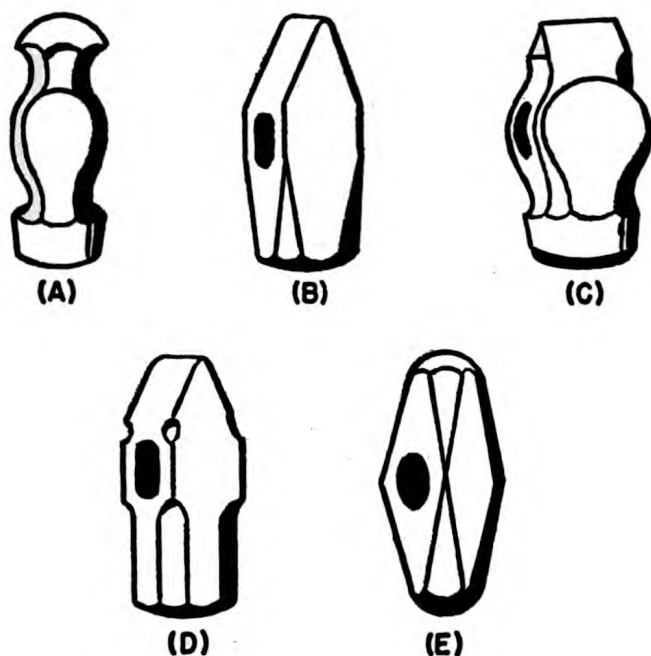

Figure 83.—Hammer type according to weight and peen.
refers to the shape of the top or back surface of the head OPPOSITE the working surface, or face. Thus, a hammer may be BALL-PEEN, as (A) of figure 83, CROSS-PEEN, as (B), or LONG-PEEN (sometimes called STRAIGHT-PEEN) as (C).
In figure 83 (*D*) you see a typical HAND SLEDGE HAMMER. This type of hammer is used by your helper to strike "shoulder" blows. That is, he hoists the head of the sledge to his shoulder and strikes from that position. Both large hammers and sledges are often called flogging hammers because they do only heavy work.
For striking exceptionally heavy blows, your helper uses a mean-looking baby like the SWING SLEDGE shown in figure 83 (*E*). It gets its name from the fact that the helper grasps the handle near the end (it is about 3 feet long) and delivers a full arm swing blow. Thus the head of the sledge, weighing 8 to 20 pounds, passes through a rather wide arc.